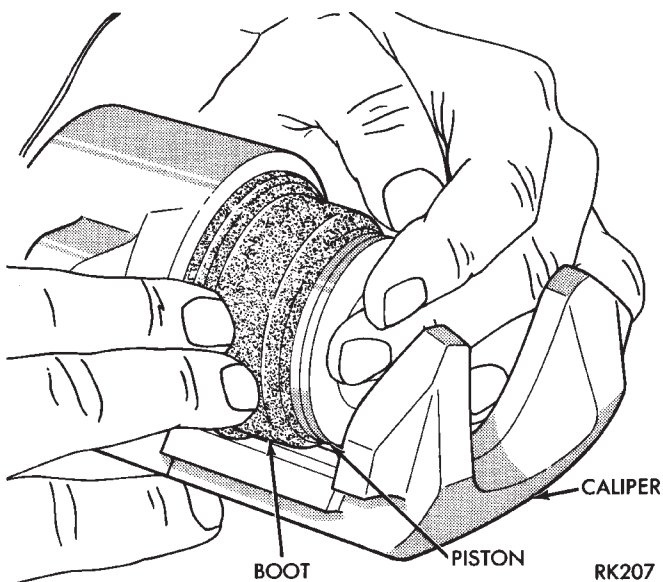

Fig. 7 Pushing Piston into Bore
(3) Coat new piston boot with clean brake fluid leaving a generous amount inside boot.
(4) Position dust boot over piston after coating with brake fluid.
(5) Install piston into caliper bore pushing it past the piston seal until it bottoms in the caliper bore (Fig. 7).